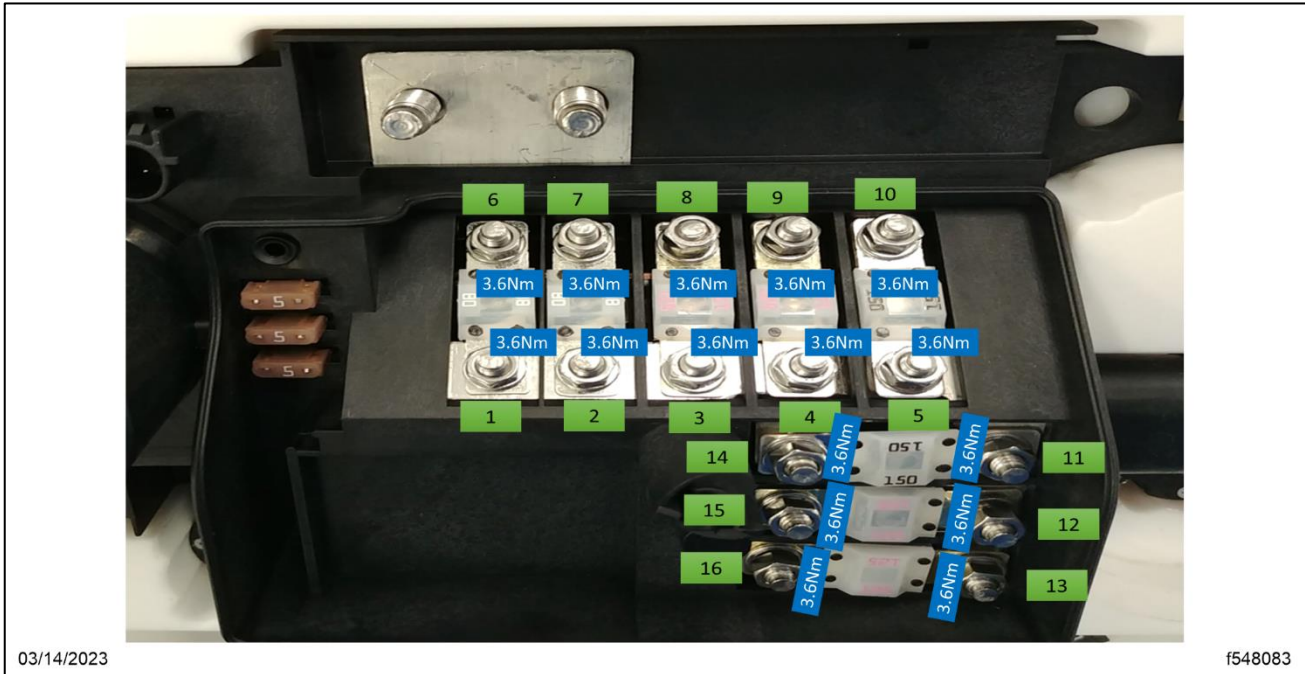

Fig. 9, Torque Specifications for Tightening the Fuses
- 6.2. Tighten the nuts 32 lbf·in (3.6 N·m). See **Fig. 9** for reference to identify the nut numbers to report loose nuts.